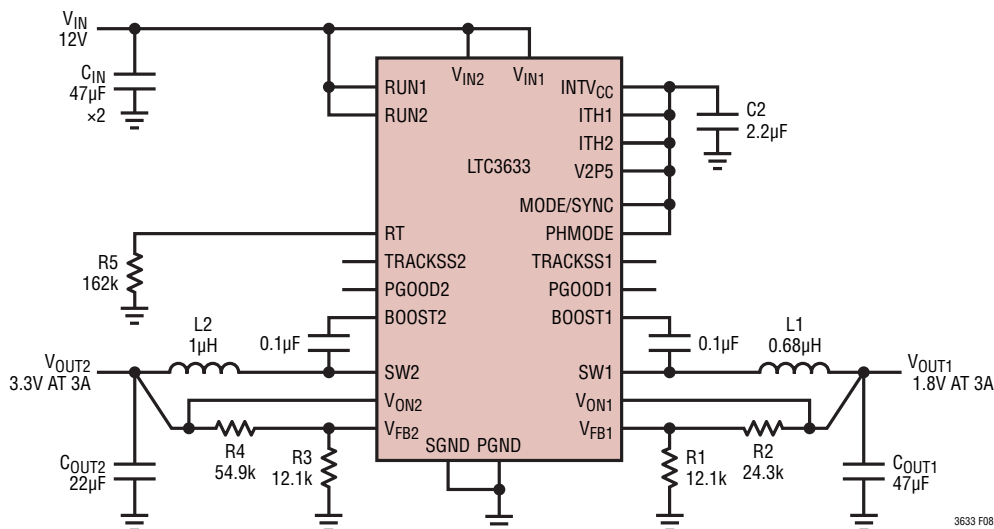

Figure 8. Design Example Circuit
- 3) The resistive divider, (e.g. R1 to R4 in Figure 8) must be connected between the (+) plate of  $C_{OUT}$  and a ground line terminated near SGND. The feedback signal  $V_{FB}$  should be routed away from noisy components and traces, such as the SW line, and its trace length should be minimized. In addition, the  $R_T$  resistor and loop compensation components should be terminated to SGND.
The final circuit is shown in Figure 8.